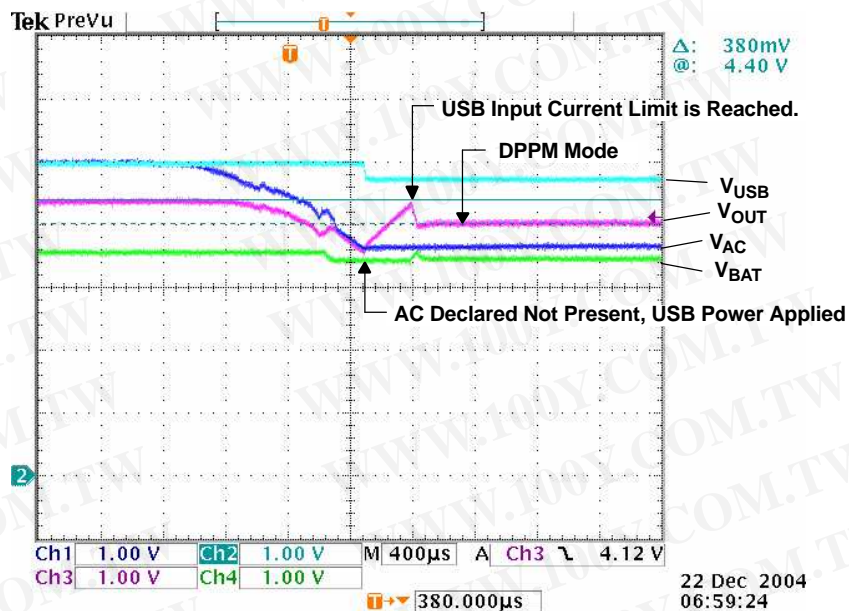

Figure 7. Remove AC – PWR XFER to USB
Figure 7 illustrates when AC is removed, power transfers to USB; PSEL = H (AC primary source); channel 1 (CH1) VAC = 5.4 V; channel 2 (CH2) V(USB) = 5 V; channel 3 (CH3) VOUT; output current, IOUT = 0.25 A; channel 4 (CH4) VBAT = 3.5 V; and I(PGM-CHG) = 1 A. The power transfer from AC to USB only takes place after the primary source (AC) is considered bad (too low, VAC ≤ VBAT + 125 mV) indicated by the ACPG FET turning off (open drain not shown). Thus, the output drops down to the battery voltage before the USB source is connected (6th div). The output starts to recover when the USB FET starts to limit the input current (7th div) and the output drops to the DPPM voltage threshold.